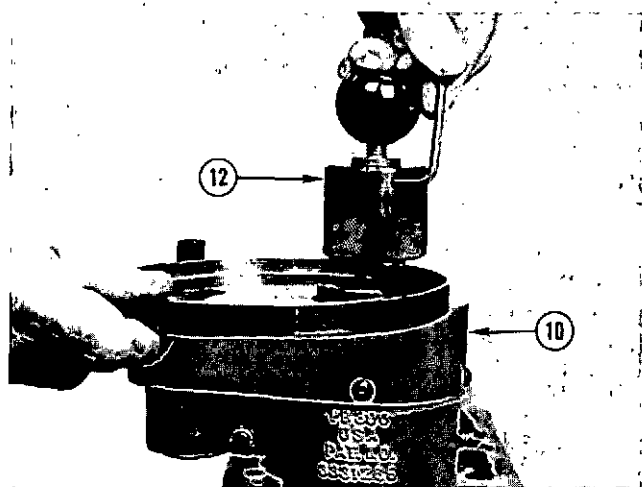

Fig. 1-21. Adjust The Cutting Travel Of The Tool.
13. Loosen the setscrew until the part No. 202226 salvage sleeve will fit between the collar and the main body of the boring machine, Fig. 1-21. Tighten the setscrew in the collar.